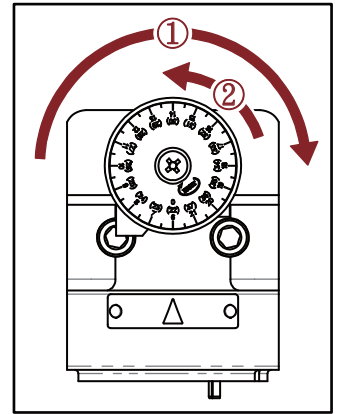

Fig. 7-1
1. Preset the scale of the Positioning Shelf. (Fig. 7-1)
- ① Turn it by clockwise to the end.
- ② Turn it by counterclockwise at "0".